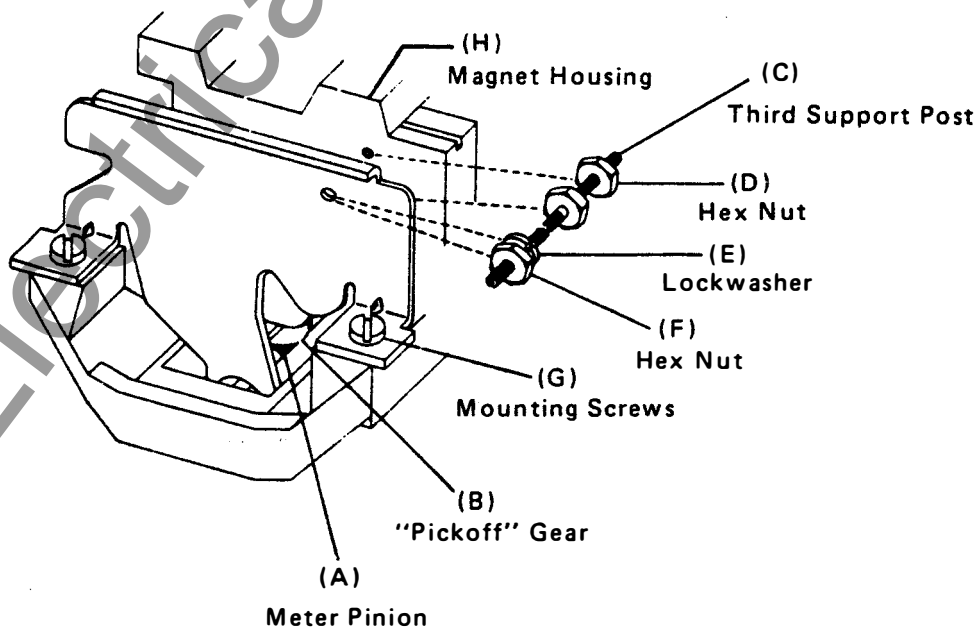

Figure 6
The Type 12B initiator for D4 polyphase is mounted below the disk by two shoulder screws and an adjustable third support post (C) as shown in Figure 6, Page 5. The gear train meshes with a 13-tooth pinion on the disk shaft below the disk which drives the gear train.
If necessary to remove the Type 12B initiator from the D4 polyphase meter, see Figure 6, Page 5, and use the following procedure:
See Figure 6, Page 5, and use the following procedure to install the detent:
The geared photoelectric pulse initiator when mounted on a meter (Figure 6, Page 5) sends pulses which are proportional to a desired number of kilowatt-hours. A variety of gear ratios are available which will rotate the slotted shutter disk shaft at the desired speed.